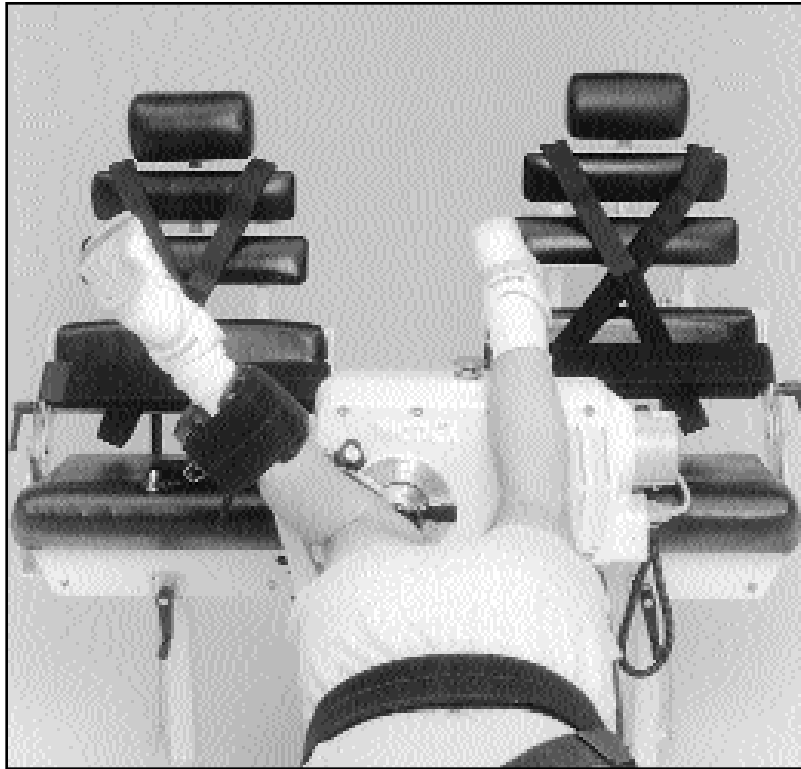

Figure 4.45
3. Instruct subject to lie prone on chair with feet closest to powerhead. Adjust chair and powerhead height and position so that shaft aligns with the axis of rotation of the hip. For this pattern, axis of rotation runs longitudinally through the middle of the femur. Adjust KNEE ATTACHMENT length so that the padded end is placed just proximal to the ankle joint (Figures 4.45 and 4.46). Secure attachment to subject's leg with strap. Subject can rest opposite leg against the powerhead so that it does not interfere with the test or exercise motion.